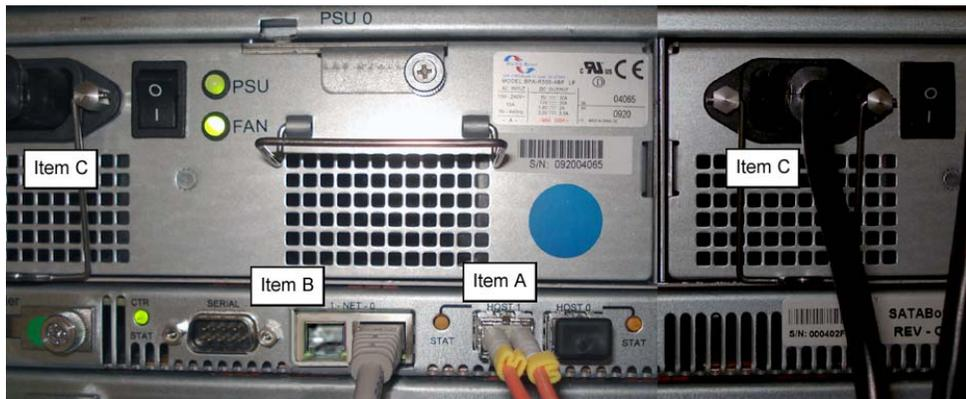

Figure 3: Back of the Nexsan SATABoY
- A. Plug the other end of the fibre channel cable into the storage device's HOST "1" channel (see Figure 3, Item A).
- B. Plug the other end of the CAT-5E crossover cable into the storage device's NET "0" (zero) port (see Figure 3, Item B).
- C. Plug the storage device's AC power cords into the rear sections of the unit (see Figure 3, Item C).